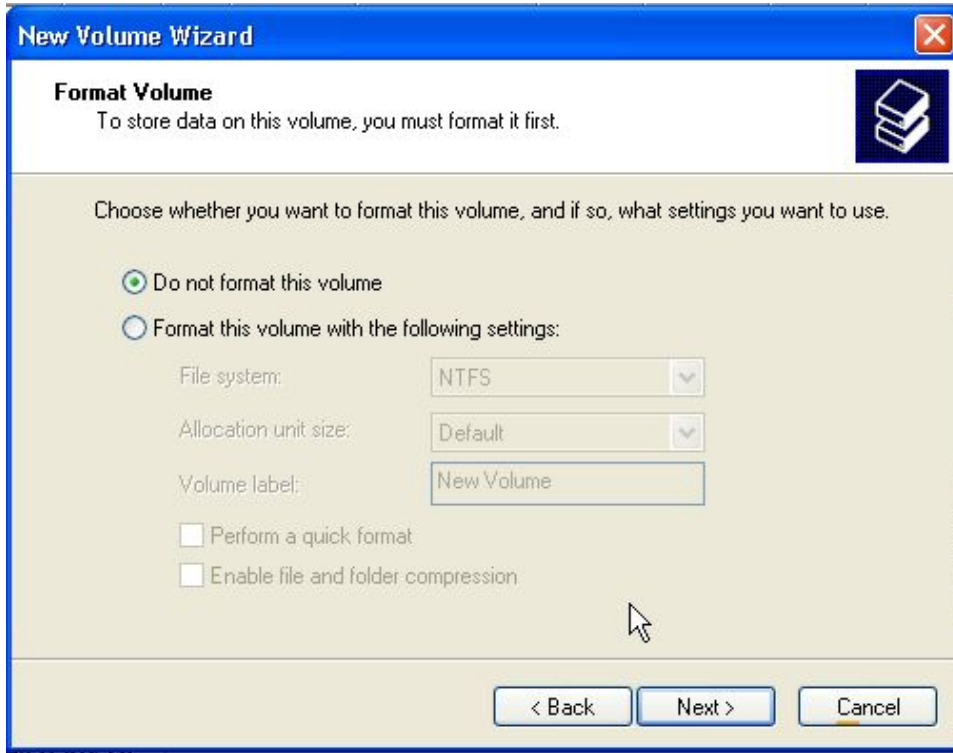

FIGURE 6-31. New Volume Wizard - Format Volume Screen.
5. The *New Volume Wizard - Format Volume* screen appears. Select “Do not format this volume”. Click **NEXT >**. See Figure 6-31.